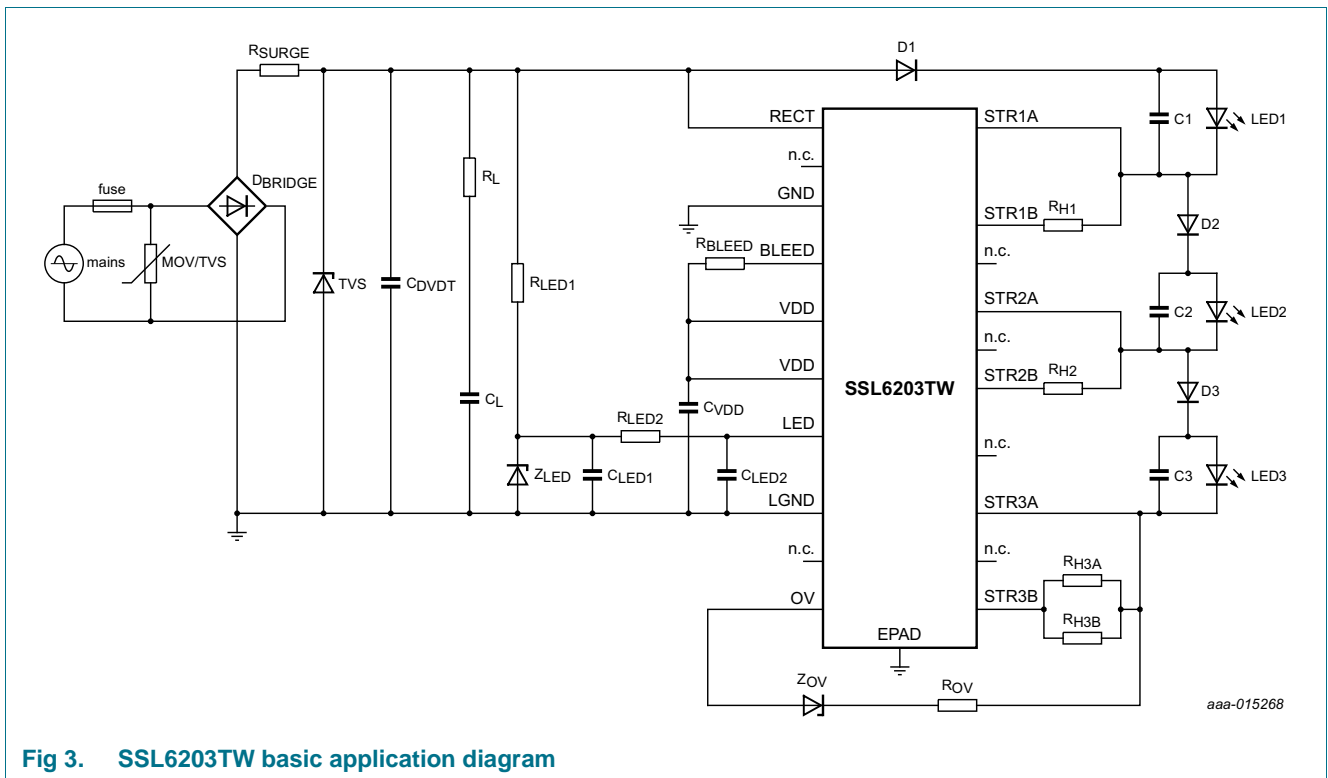

Fig 3. SSL6203TW basic application diagram
The linear LED driver in the SSL6203TW operates as a high-voltage linear current source. This current source is used to drive the LEDs. Figure 3 shows a basic application diagram. Depending on the momentary value of the rectified mains voltage, the LED current flows through one or more LED strings.
A linear LED driver is sensitive to line and load variations as they affect the on-time of the LEDs (which influences the emitted light) and the dissipation in the IC. To get a more stable line/load regulation and a more constant IC dissipation, negative feedback is available through the OV pin. The feedback reduces the LED current as the mains current voltage increases, stabilizing the IC dissipation. Zener diode ZOV and resistor ROV (see Figure 3) can set the starting point and the sensitivity of the feedback.
- When 10 % mains voltage variation is assumed, the minimum peak voltage of the mains in a 120 V (AC) system equals:  $0.9 \times 120 \times \sqrt{2} = 152.7 \text{ V}$
- The bridge rectifier and the surge resistor have some voltage drop (see Figure 3)